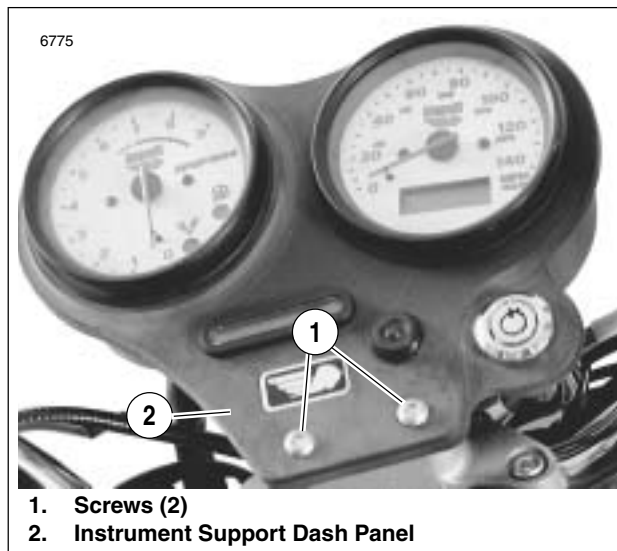

Figure 7-60. Front Dash Panel
2. See Figure 7-60. Detach instrument support dash panel (2) by removing two screws (1) holding panel to instrument support clamp. Pull dash panel upward, but do not damage wiring.
- b. Apply LOCTITE THREADLOCKER 243 (blue) to both nuts (metric) (3).
- c. Fasten cover (5) to tachometer using two nuts (metric) (3) and lockwashers (4).
5. See Figure 7-60. Position dash panel on instrument support clamp.
- a. Attach dash panel using two screws (1) to hold panel to clamp.